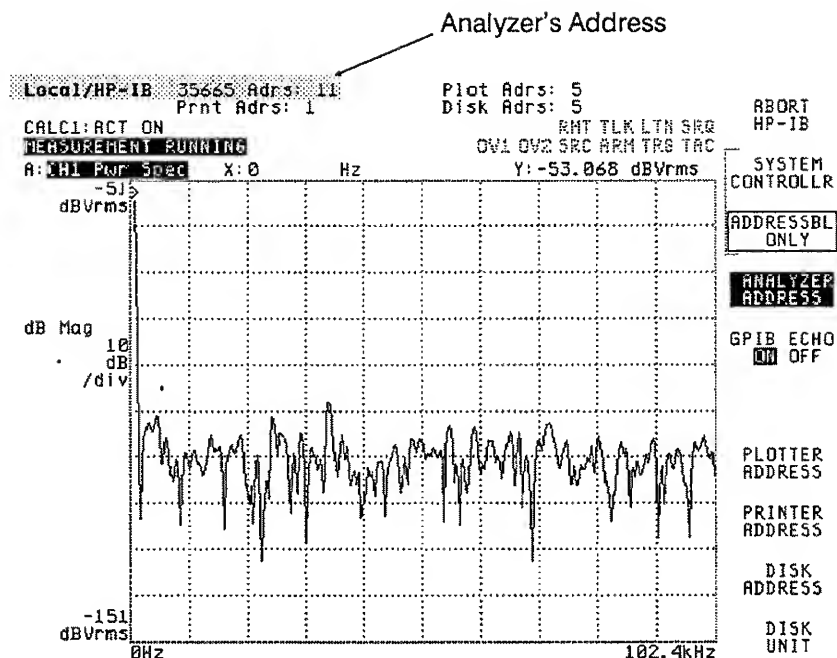

Figure 1-3. HP 35665A Screen After Pressing
4. Verify that the analyzer's address is set to 11. The current address setting is displayed when you press the [ ANALYZER ADDRESS ] softkey (see figure 1-3). You can change the address by pressing [ ANALYZER ADDRESS ], then using the numeric keypad and the [ ENTER ] softkey to enter a new value. However, the instructions in the verification procedure assume that the analyzer address is set to 11.